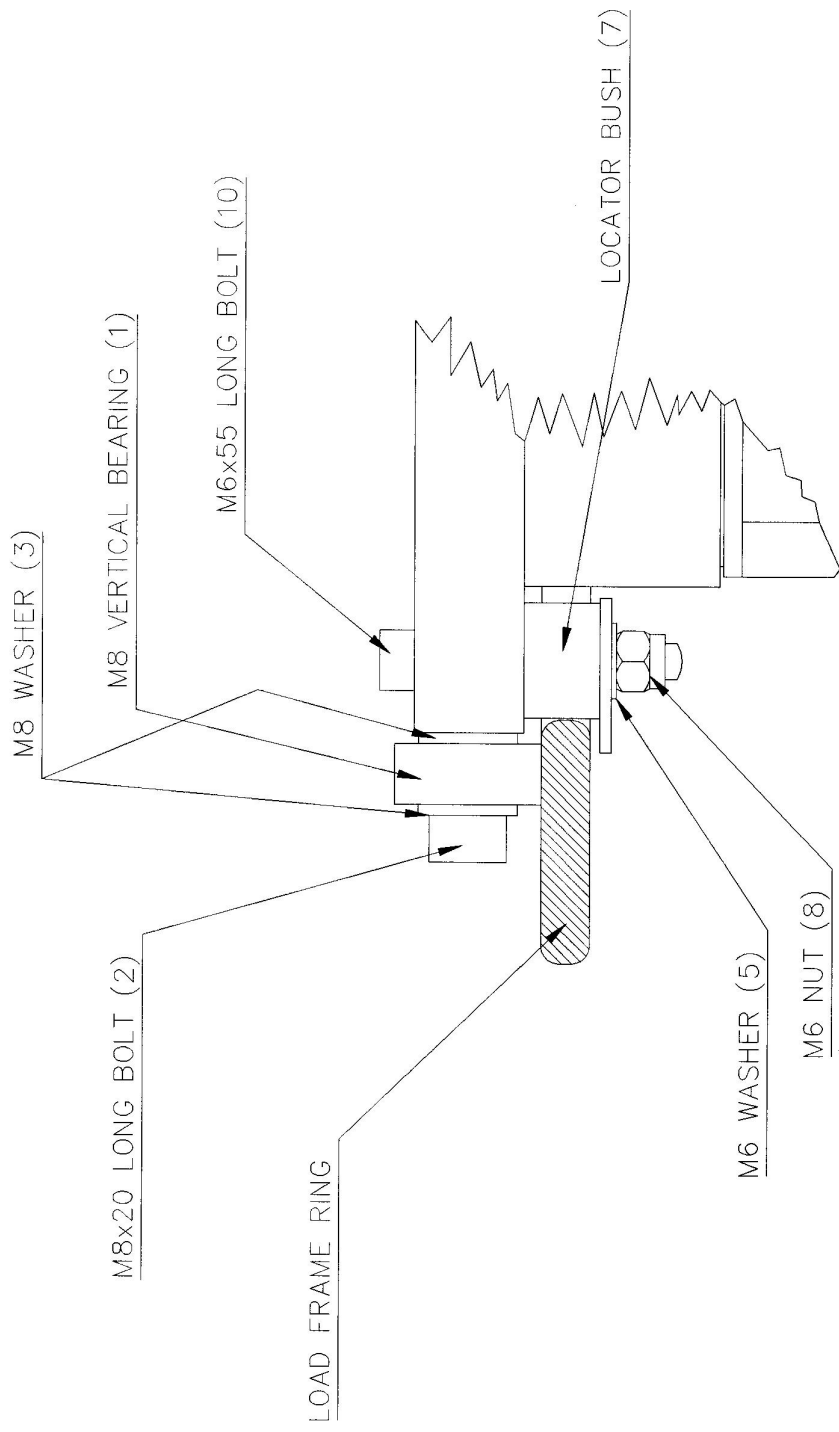

FIG SB2-002 FRONT BEARING ASSEMBLY.
6. Select the three M8 replacement bearings (1), the M8 washers (3) and M8 bolts (2) from the replacement kit. Assemble components as shown in Figure SB2-002. Place a small drop of the Loctite 242e on the end of the thread.
7. Select the one horizontal locator bush (7) which has a cut out in the largest diameter. Assemble with the M6 x 55 bolt (10), and M6 washer (5) and an M6 aerotite nut (8) in the front bearing location, as shown in Figure SB2-002. Tighten the nut securely.